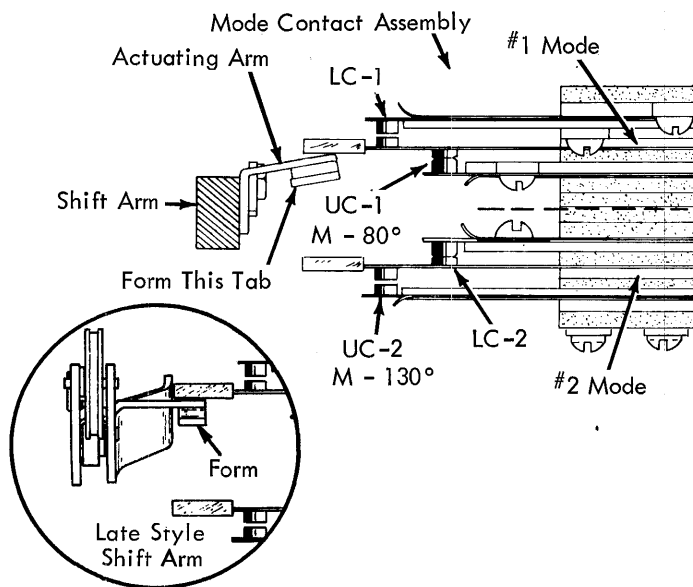

FIGURE 87. Mode Contact Actuating Arm
7. Mode Contact Actuating Arm - With the shift ratchet released, hand cycle from lower to upper case and adjust as follows (Fig. 87).